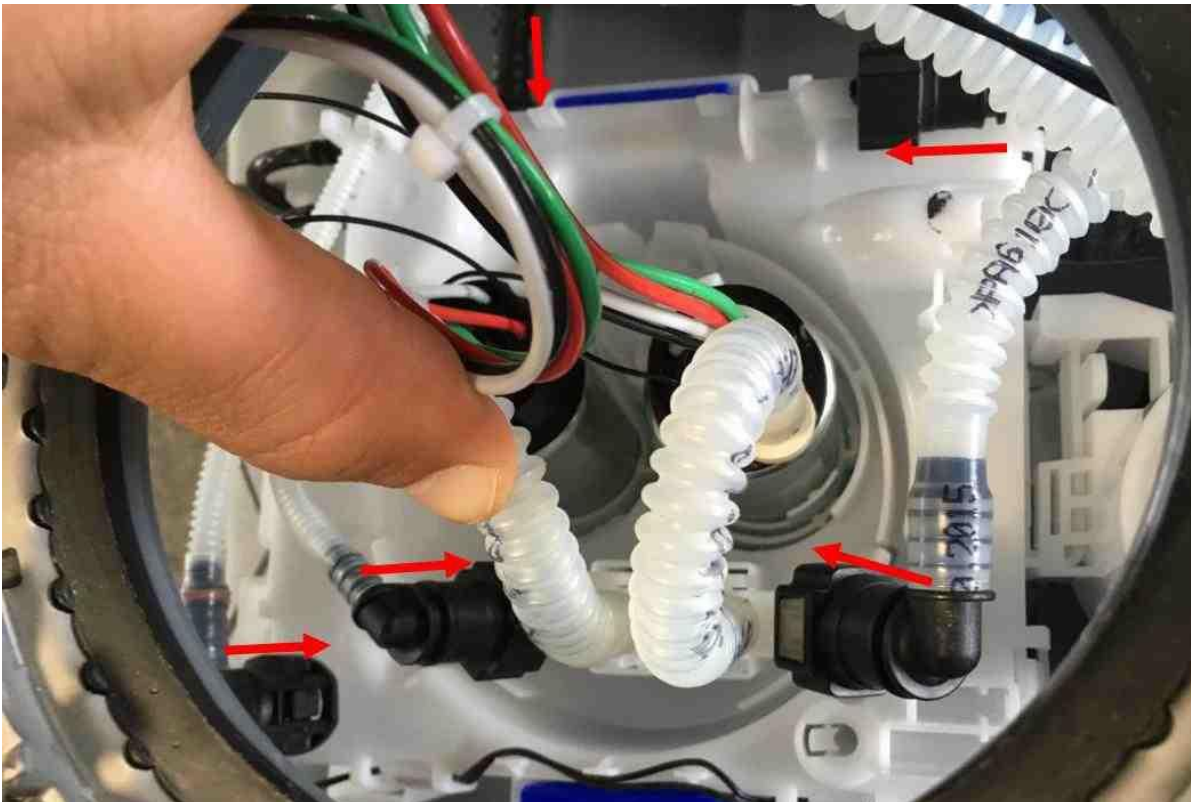

Figure 5
- Carry out an inspection of ALL accessible hoses and connections which connect to the fuel pump assembly/fuel filter assembly as shown in Figures 5 and 6